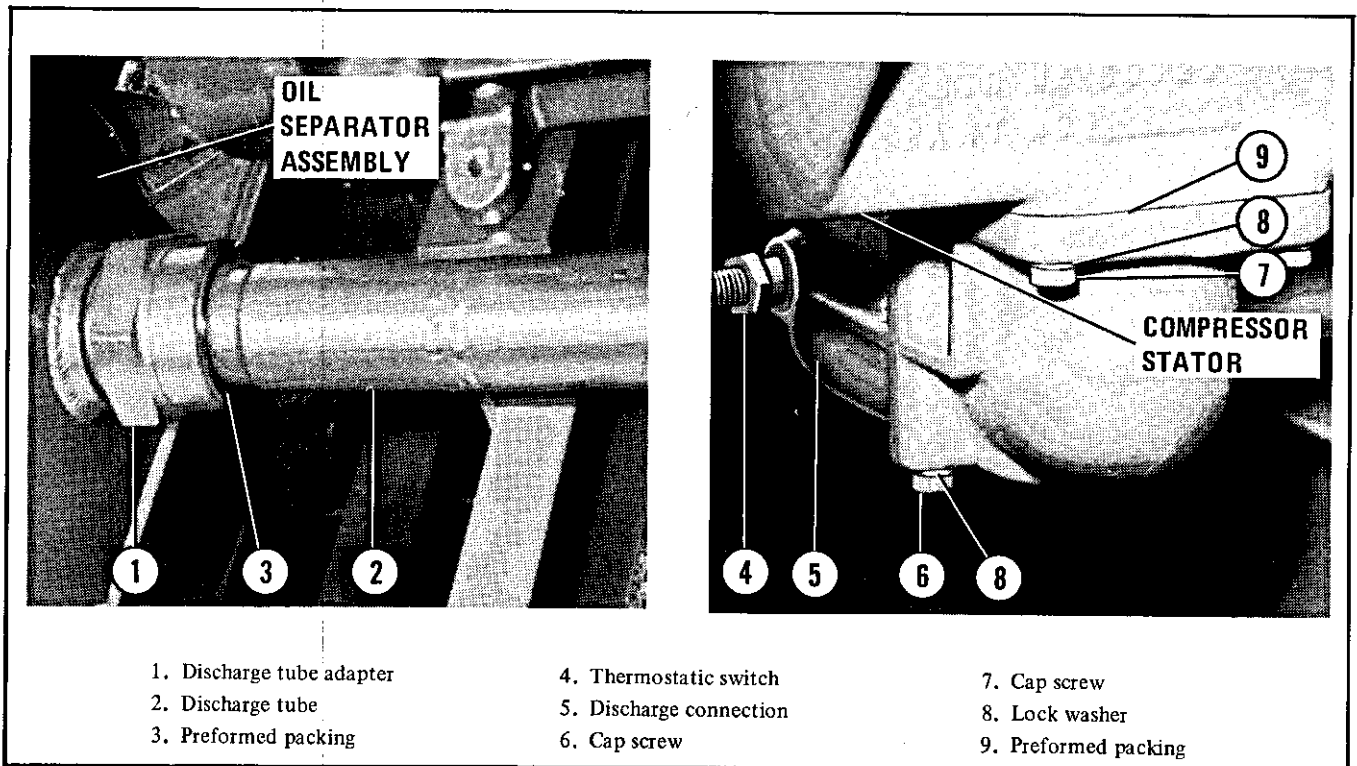

Figure 5-36. Compressor discharge connection
b. Remove outlet cover (8) and gasket (9). Unscrew and remove body (10), washer (11), spring (12), and seat (13), from cover (8).
c. Remove spring (14), cap screw (15), lock washer (16), guide (17). Remove plunger (18), spring (19), and shuttle (20).
d. Remove preformed packing (21) from body (22).
5-51. COMPRESSOR DISCHARGE CONNECTION (Figure 5-36). Disconnect thermostatic switch wire lead connectors from wiring harness. Unscrew and remove thermostatic switch (4) from discharge connection (5). Remove cap screws (6, 7) and lock washers (8). Unscrew discharge